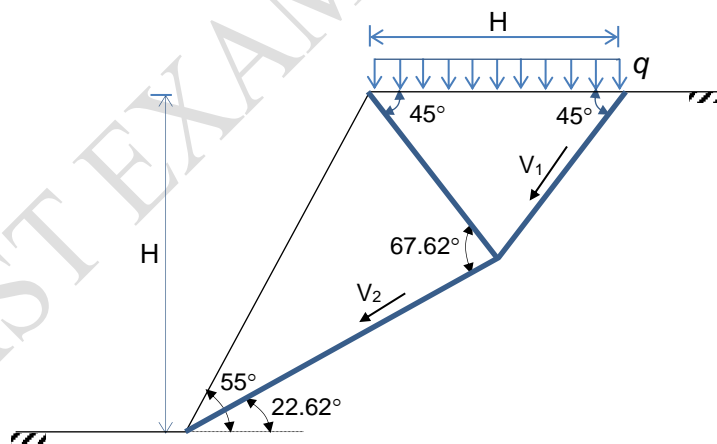

Figure Q1
Figure Q1 shows a 55° plane strain slope in a c_u and $\phi_u = 0$ soil:
- (a) Calculate the upper bound values for the stability number $\gamma H/c_u$ using the collapse mechanism shown in Figure Q1 and assuming that no surcharge is applied at the upper ground surface of the slope ($q = 0$).
- (b) The same plane strain slope is now subjected to a vertical uniform load (q). Assuming the soil to be weightless ($\gamma H/c_u = 0$) and using the same collapse mechanism shown in Figure Q1, calculate the load parameter q/c_u .
- (d) What remedial actions you suggest to improve the stability of the slope shown in Figure Q1? Discuss and use sketches to illustrate your answer as appropriate.